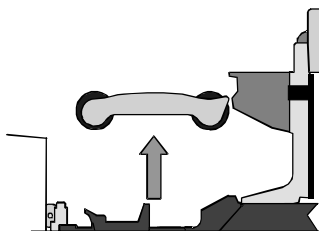

Figure 2-7: Remove the print ribbon cartridge
- 3 Grasp the ribbon cartridge handle, and lift up to remove the print ribbon cartridge (see Figure 2-7). Avoid touching the printhead cartridge and ribbon tracker.